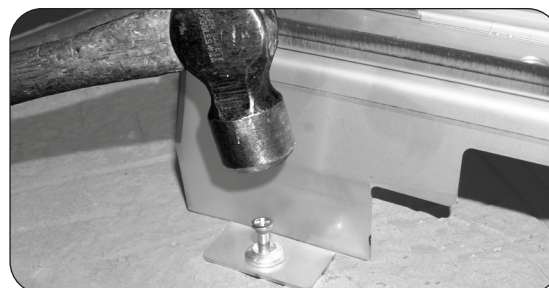

Fig. 20-4 Install hammer screws
2. Reposition the burner over the pilot holes and insert the provided hammer screws. Carefully hammer the screws in as shown in Fig. 20-4.